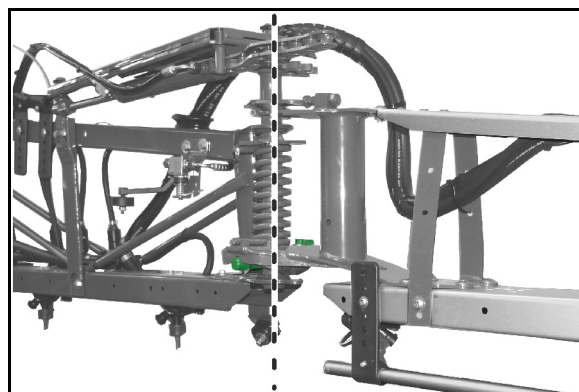

Fig. 75
Lower the sprayer boom fully using height adjustment, until the catching lugs (**Fig. 75/1**) grasp the catching sockets (**Fig. 75/2**) aufnehmen.
**Fig. 75** shows the locked sprayer boom.